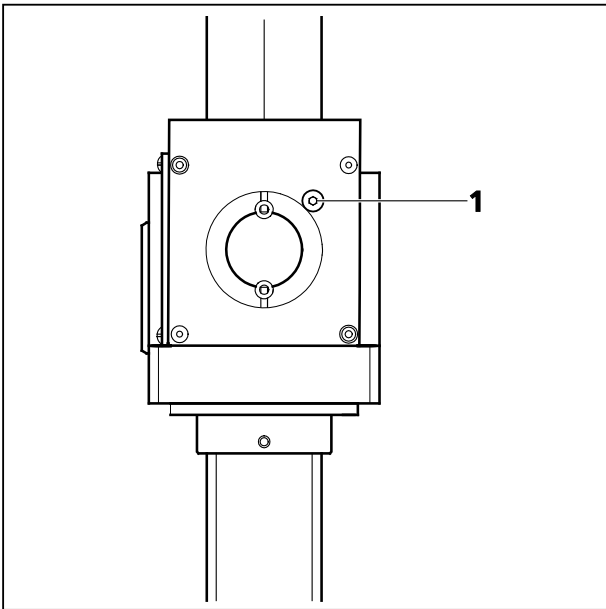

Fig. 26 Shutter opening on the periscope (1).
- Open the shutter in the periscope using an Allen key (Fig. 26/1) and slide in the tube completely, this will hold the shutter open.